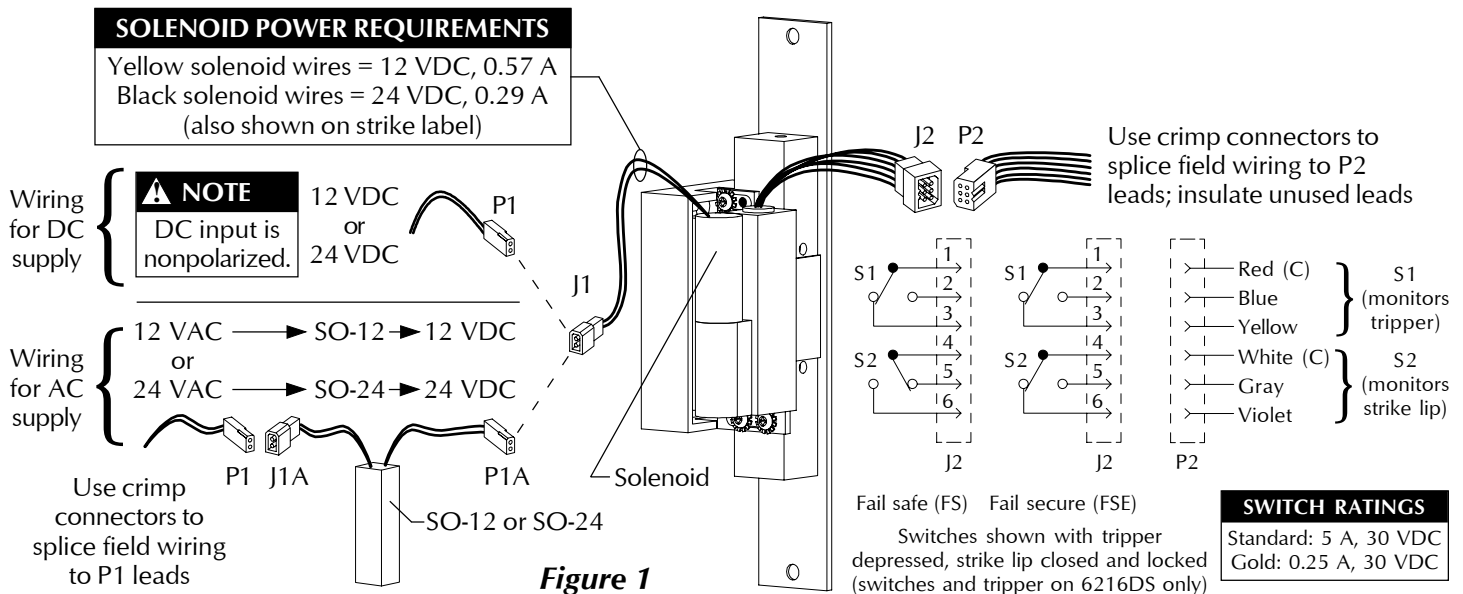

Figure 1
3. Wire strike (Figure 1). (Switches on 6216DS only.)
5. Test strike: Apply solenoid power. Fail secure (FSE) lip unlocks. Fail safe (FS) lip locks. Figure 1 shows status of switches.